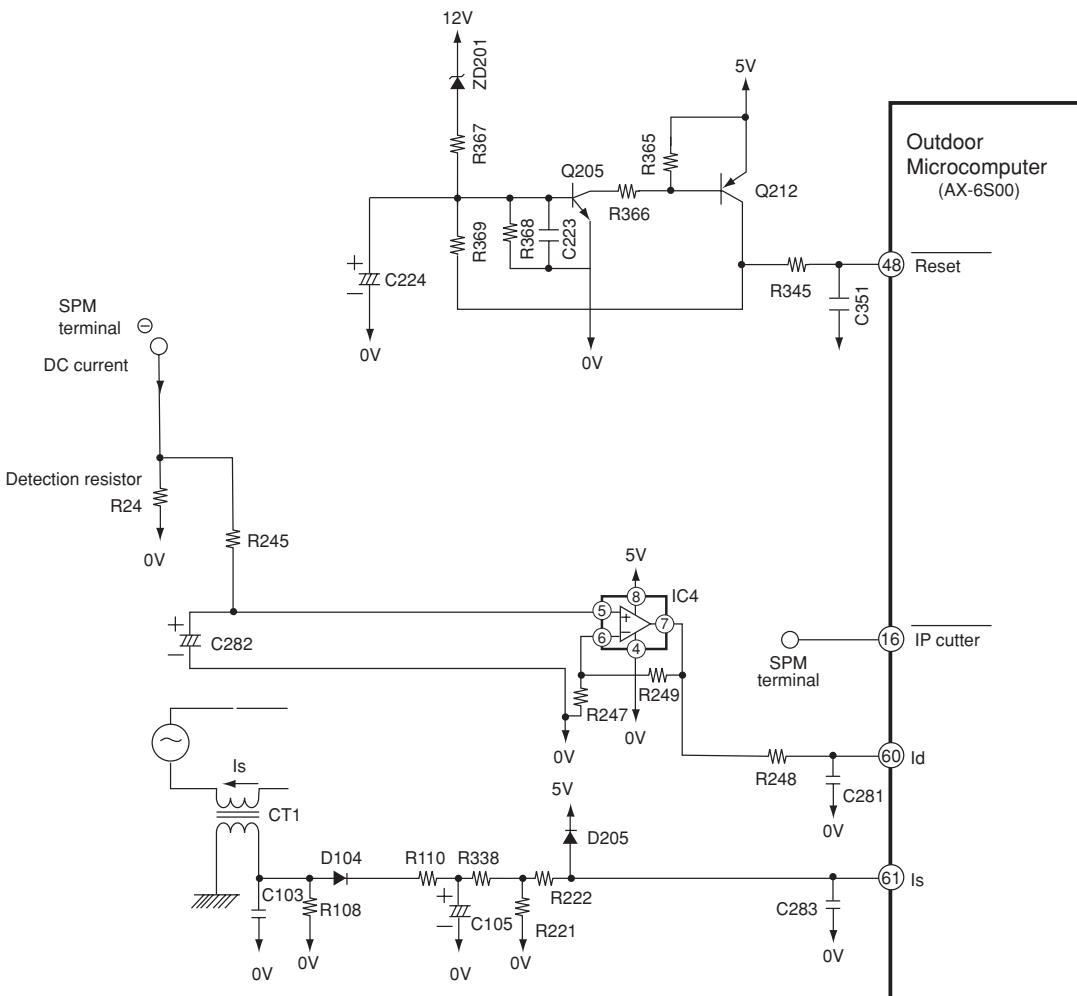

Fig. 7-1 Peripheral circuit of microcomputer (AX-6V)
- Fig. 7-1 shows the microcomputer and its peripheral circuits.